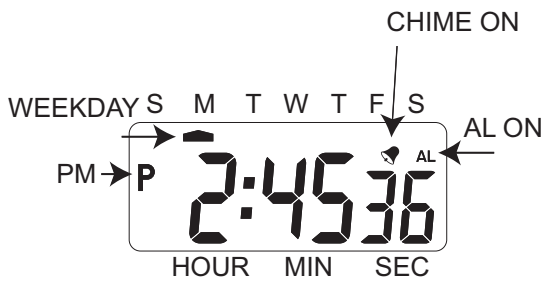

Fig. 2
1. Depress C to go to CLOCK mode. Display is as shown in Fig. 2.